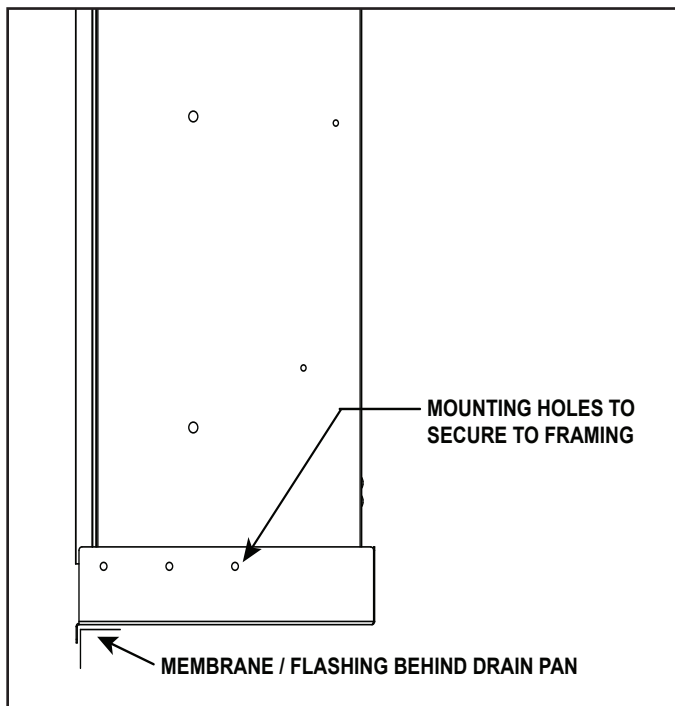

Figure 2 Drain Pan Installed Under Appliance
3. Position drain pan lip on front of enclosure so water drains to front of enclosure. The membrane or flashing will be under drain pan. See Figure 2.
5. Fasten drain pan sides to framing using construction screws through the appropriate mounting hole, determined by sheathing/finishing material depth. See Figure 2.